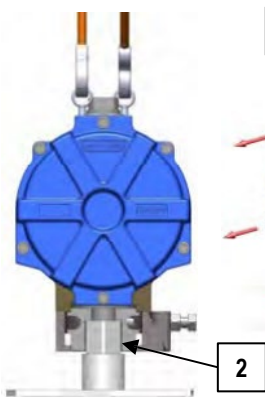
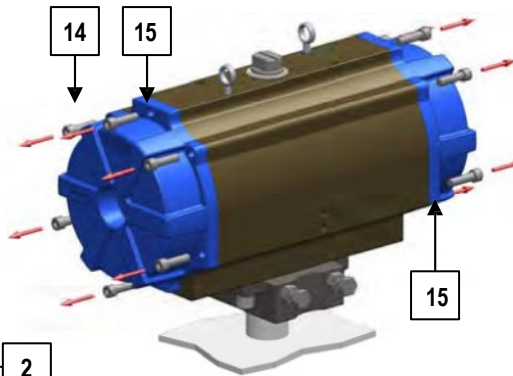

Fig. 6
Fig. 7
4. Place the actuator on a support with a square of the same size of the pinion (2) so as to easily execute the below listed operation (see Fig. 6).
5. Before disassembling the actuator **check** from the label on the body whether it is a double acting (DA) or spring return (SR) type.
6. For **DOUBLE ACTING ACTUATOR**: Unscrew in crossed sequence the screws (14) for fastening the end caps (15) (see Fig. 7).
For **SPRING RETURN ACTUATOR**: Unscrew **GRADUALLY** in crossed sequence the screws (14) for fastening the end caps (15) (see Fig. 7).